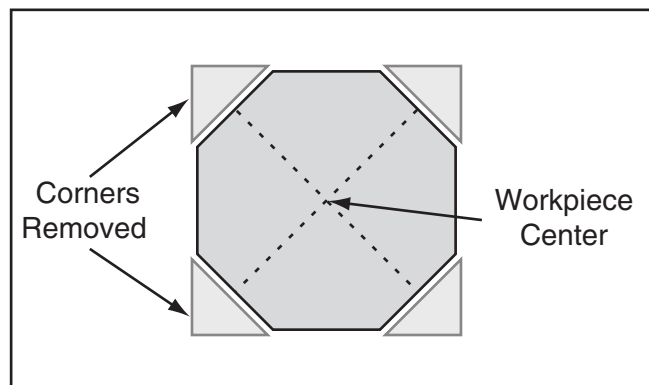

Figure 74. Corners of workpiece removed.
5. If your workpiece is over 2" x 2", cut corners off workpiece lengthwise to make turning safer and easier (see **Figure 74**).
- Tip:** *Save time during duplication by removing corners from all spindles you plan on creating before operating with comparator kit (see **Figure 74** on **Page 43**).*